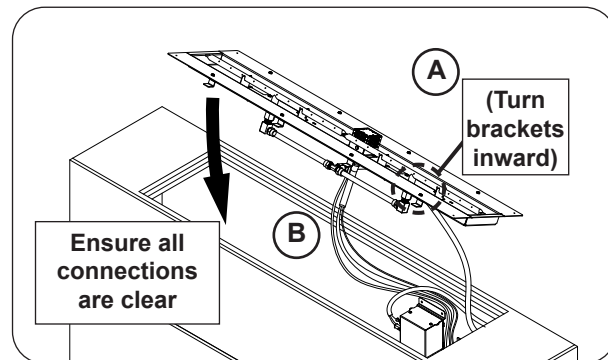

Fig. 27-2 Insert burner assembly
1. Ensure that the eight burner brackets are turned inward, then insert the burner assembly (see Fig. 27-2, A-B).